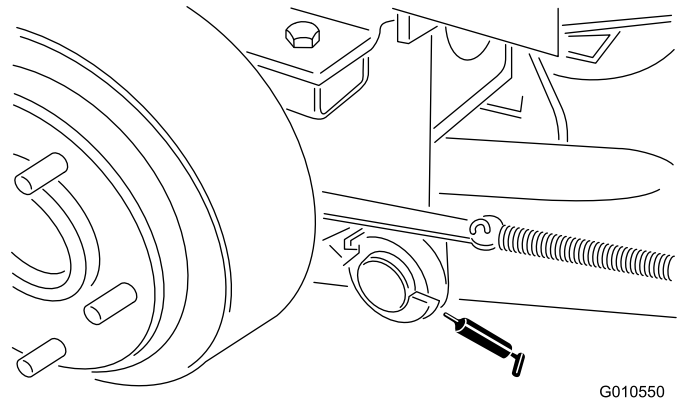

**Figure 20**
- Castor fork shaft bushings (2)(Figure 20)